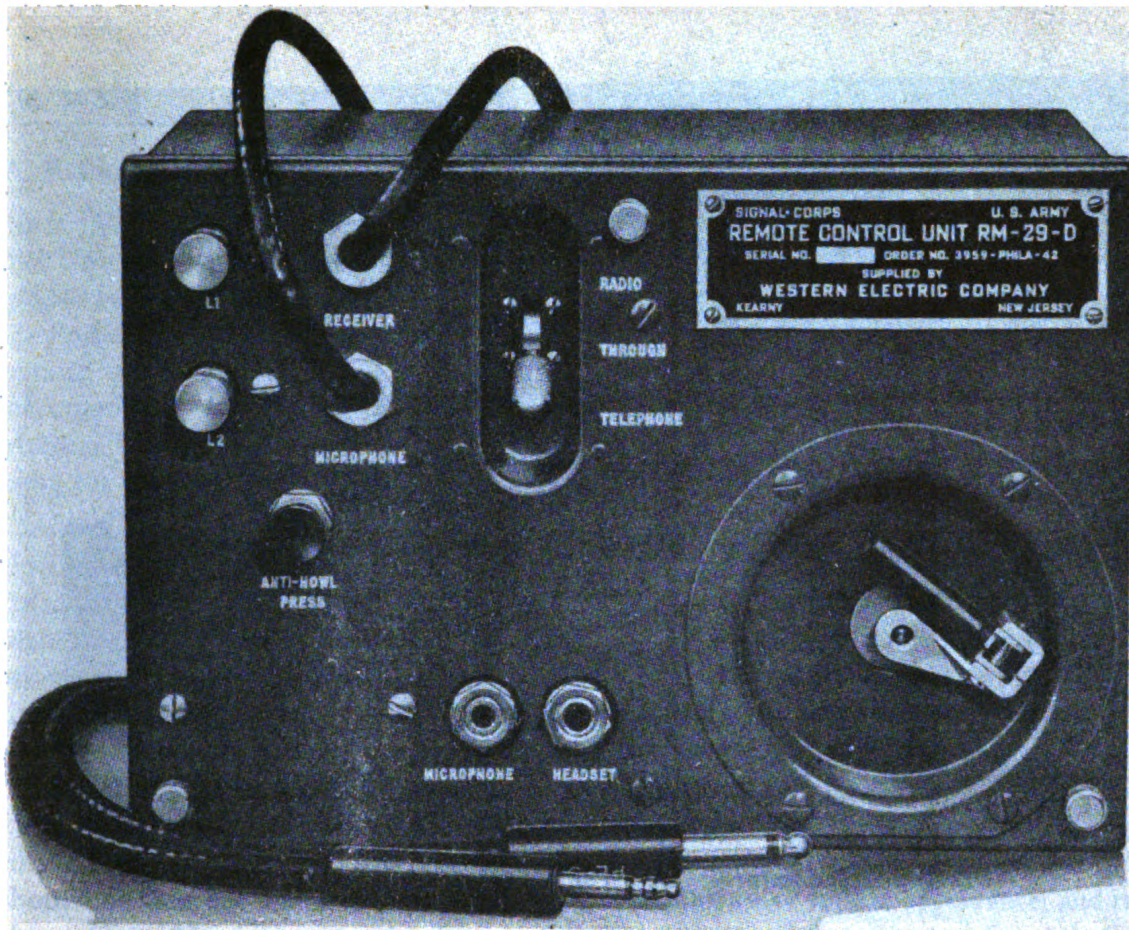
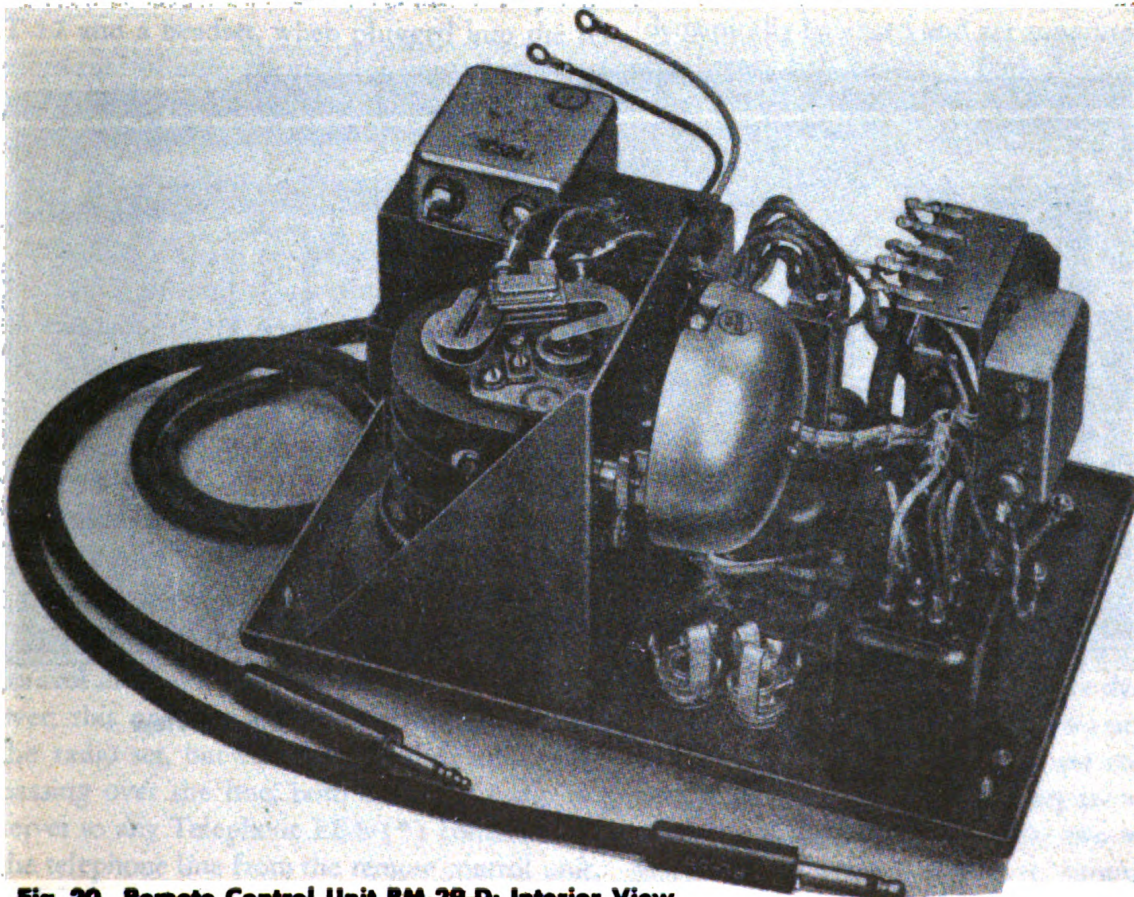

Fig. 19. Remote Control Unit RM-29-D: Front View
Fig. 20. Remote Control Unit RM-29-D: Interior View
a. Description of Functions. Remote Control Unit RM-29-D provides for remote control of the radio equipment and operates in conjunction with Telephone EE-8-(*) over a two-wire telephone line. A front view of the remote control unit is shown in Fig. 19, and an internal view with the housing removed is shown in Fig. 20.